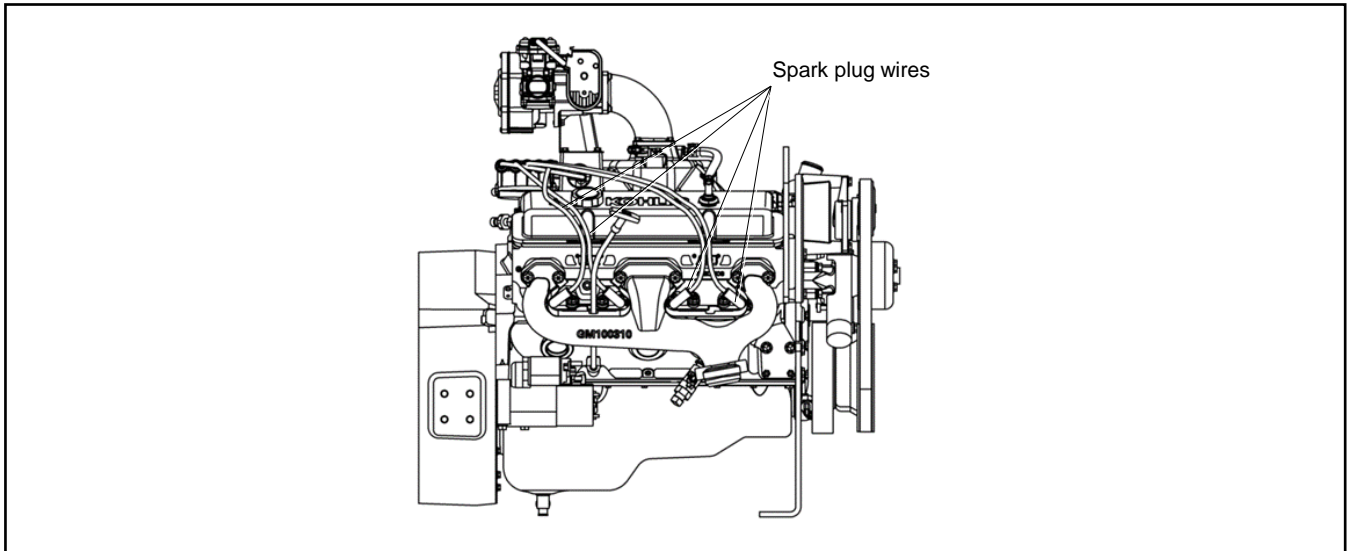

Figure 27 Spark Plug Wires
2. Use a cloth to wipe dirt and oil away from the area around each of the spark plug wires. See Figure 27.